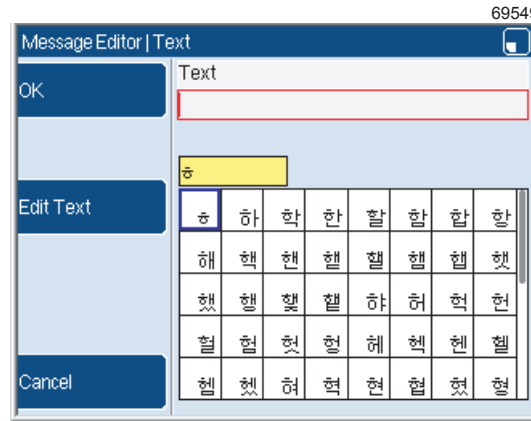

Figure 26. Korean character selector (1)
- 1 From a text edit entry box use the [alt] + [k] keyboard shortcut to change to the Korean secondary keyboard. Enter any valid Jamo character in the text edit entry box. The Korean character selector automatically opens in 'Jamo Input' mode (see Figure 26). The character that you entered appears in the lower text box.